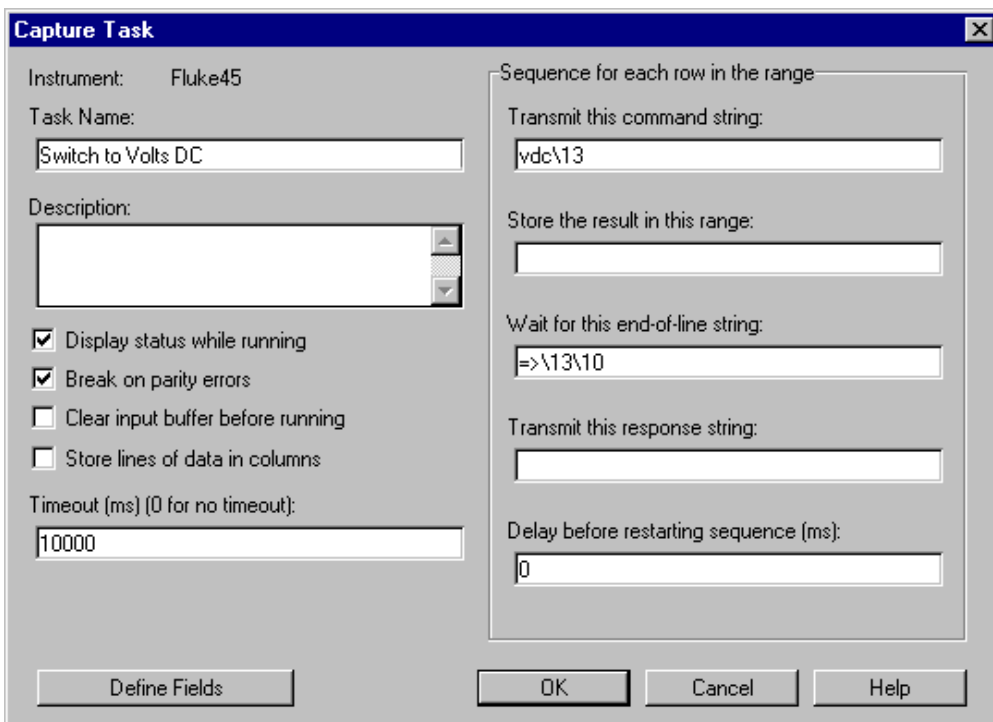

Figure 2-3. Capture Task Dialog Box for Creating a Switch to Volts Task
3. Click on the **New Capture** button, and the Capture Task dialog box appears, shown in Figure 2-3.
7. Click on the **OK** button to close this dialog box, shown in Figure 2-3.